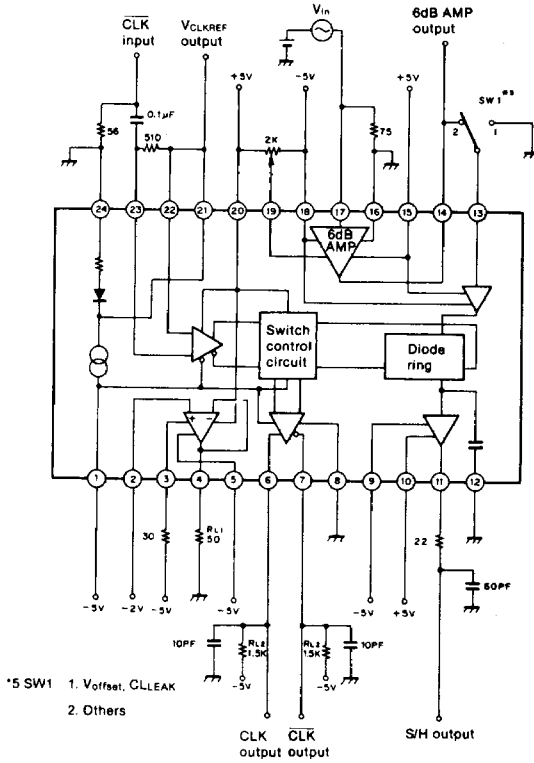

Fig. 3
S/H section (see Fig. 3)
(RLI = 50Ω. see Fig. 3)
**6dB amp section (see Fig. 3)**
**CLK OUT section (see Fig. 3)**
**-2Vref amp section (see Fig. 3)**